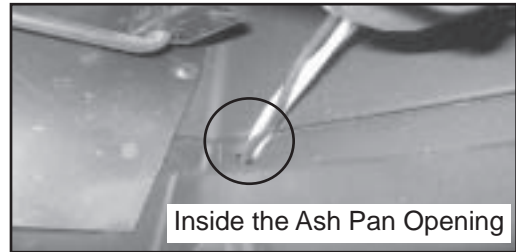

Figure 7
9. Feed the wires through the right corner opening in the cast. **Figure 7.**